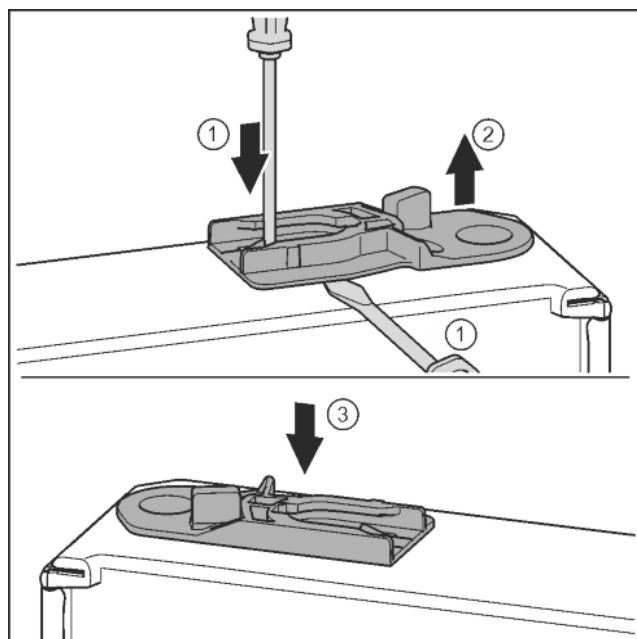

Fig. 32
- Pull out the guide bush: Press the tab with a slotted screwdriver and, at the same time, insert the slotted screwdriver under the guide bush. *Fig. 32 (1, 2)*
- Slide the guide bush included in the scope of supply to the other side of the housing. *Fig. 32 (3)*